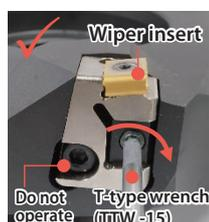

Fig. 1 Adjustment direction
2. Thread in one direction clockwise (Fig. 1) when adjusting.